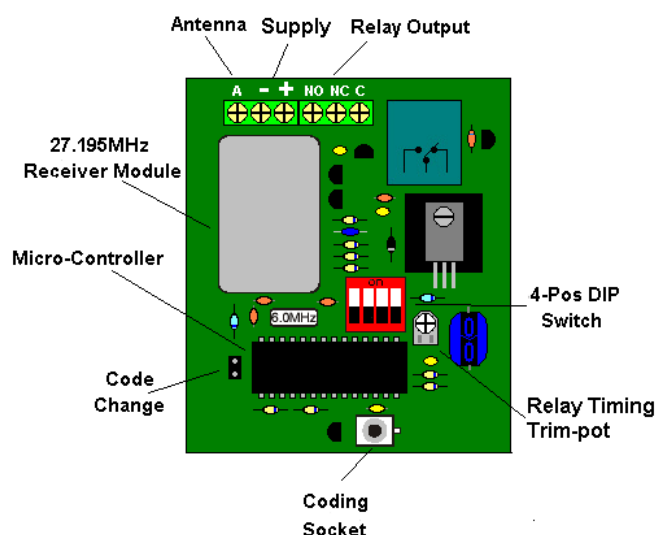

Figure 1. SRWSS 1 Receiver Board
1. Remove the blue inside covers of the receiver and transmitter to reveal their coding sockets. Refer to Figure 1 on page 3 to find the receiver coding sockets and Figure 3 on page 4 to find the transmitter coding sockets.
3. If a new security code is needed, momentarily short the code change pins marked by the "CC" symbol using either the jumper found on one of the coding pins or a flat-bladed screwdriver. Refer to Figure 1 on page 3 to locate the code change pins.
2. To randomly generate a new receiver code, momentarily short the code change pins marked by the “CC” symbol. Refer to Figure 1 on page 3 to locate the code change pins.
2. Short the two code change pins marked with the symbol “CC” on each receiver by sliding the jumper that comes with each receiver over the pins. Refer to Figure 1 on page 3 to locate the code change pins. Maintain all shorts until programming for all receivers is complete.
The receiver has eight modes that control how the outputs function. These modes are selected using the four-position DIP switch on the receiver. All time durations for each operating mode can be adjusted using the trimpot. Turning the trimpot clockwise increases time durations and turning it counter-clockwise decreases the duration. Refer to Figure 1 on page 3 to find the trimpot on the receiver. Table 1 below lists and describes each operation mode. The white boxes in the diagram represent the position of the DIP switches.